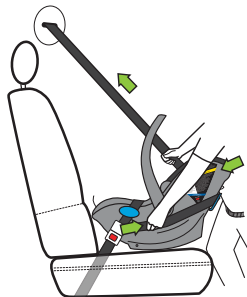

Figure 80
- Use your body to push and wiggle the Carrier into the vehicle seat back while pulling shoulder belt to remove all slack, as shown in **Figure 80**.